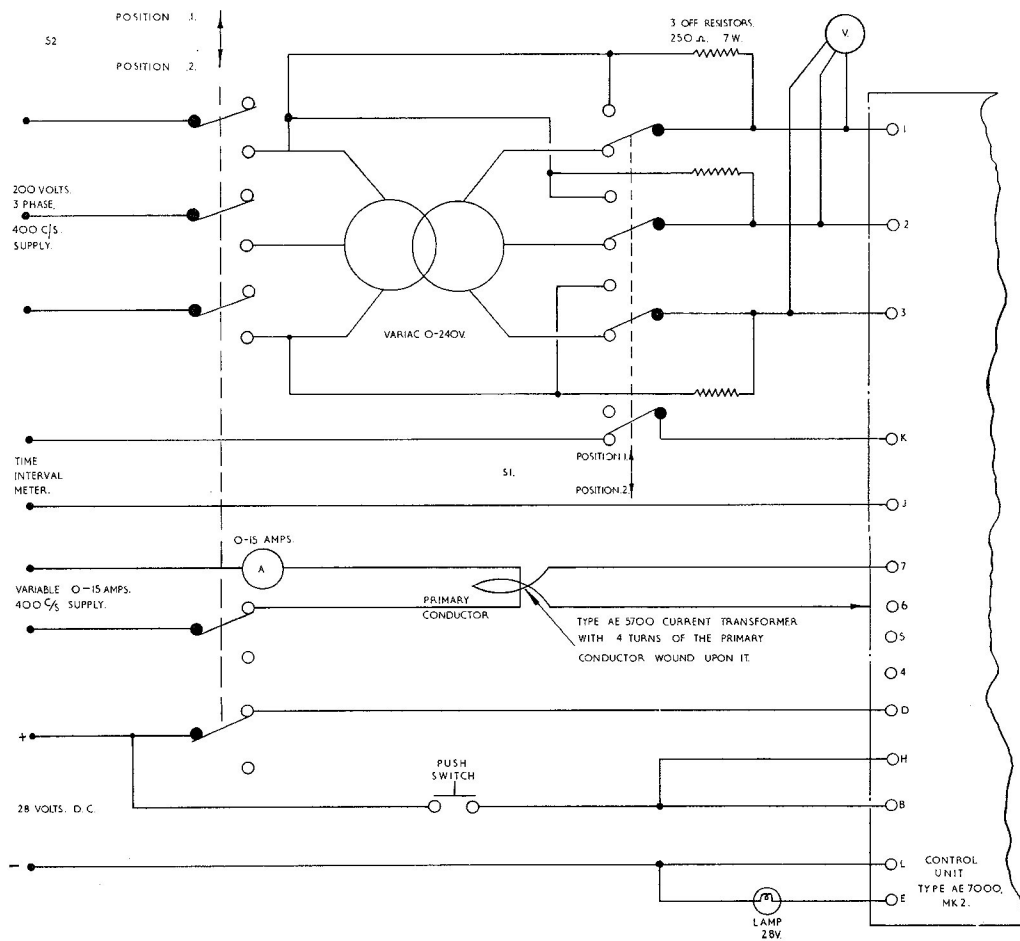

Fig.4 Test circuit diagram
27. Connect the unit as shown in the test circuit diagram fig.4. The a.c. voltmeter used is to be accurate to within plus or minus 0.5 per cent and have a scale of 0 - 250 volts.